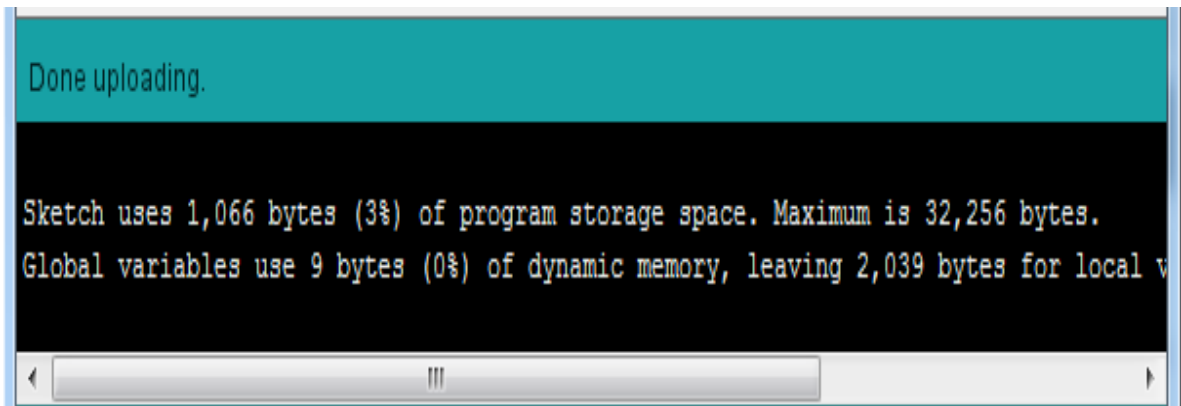

Figure 8.3 Code Uploaded
- The figure 8.3 shows that the code is uploaded successfully.